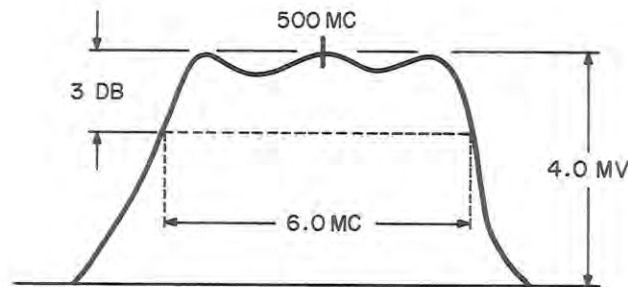

Figure 5-6. 250-500 Mc RF Tuner Response Waveform at TP1.
- i. The RF response displayed on the oscilloscope should have the characteristics illustrated in Figure 5-6.